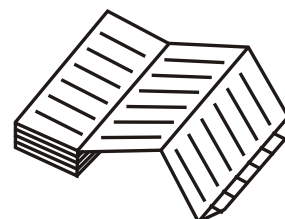

Fig. 3
3. As shown in Fig. 3, insert the recording chart with the “begin” tab placed in the cartridge. Check that the printed side is facing out.
4. Set the recording chart according to the mark of day and time. (Fig. 3)
5. Remove the temperature recorder cover, then install the temperature recorder to control panel by using the fittings enclosed with the temperature recorder. (Fig. 3)